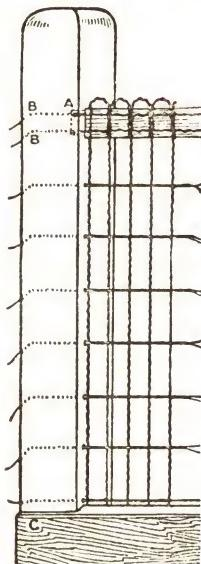

Fig. 1.
**RAILS.**—4 x 2, on edge. Flush with face of intermediate posts, and mortised into straining posts 1 in. behind face. See "A" in Fig. 1.
**PLINTH.**—6 x 1½. Place the Plinth flat on face of intermediate posts, and check into straining posts to bring back of Plinth flush with front of top rail. See "C" in Fig. 1. The fabric is dropped 1 in. behind the Plinth, and stapled to the back thereof.
For 36 in. Fabric leave a space of exactly 2 ft. 10 in. from the top of Plinth to top of rail. This will bring the two top cables of your fence nicely along the face of the top rail, as in Fig. 1. For 42 in. Fabric leave a space of 3 ft. 4 in., and for 46 in. Fabric a space of 3 ft. 8 in.